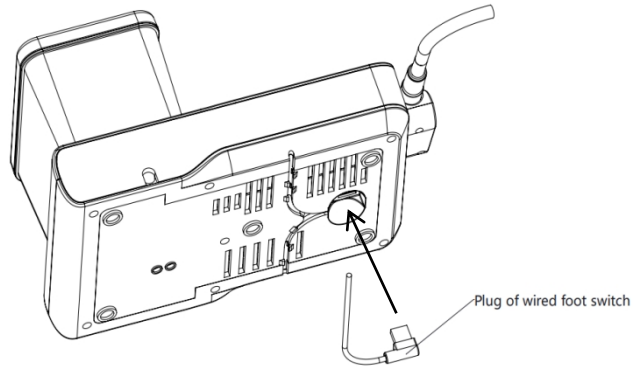

Figure 2.3
- 3) Insert the battery into the wireless foot switch or insert the plug of the wired foot switch into the foot switch socket (See Figure 2.3 and Figure 2.7).